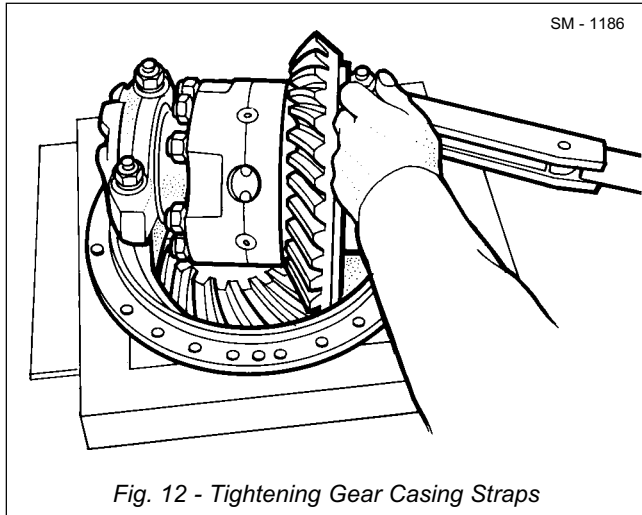

Fig. 12 - Tightening Gear Casing Straps
4. Turn adjusting nuts (23) hand tight against bearings (24 & 24A).
5. Install washers (34) and nuts (35). Tighten nuts to a torque of 502 - 542 Nm (370 - 400 lbf ft) (See Fig. 12).